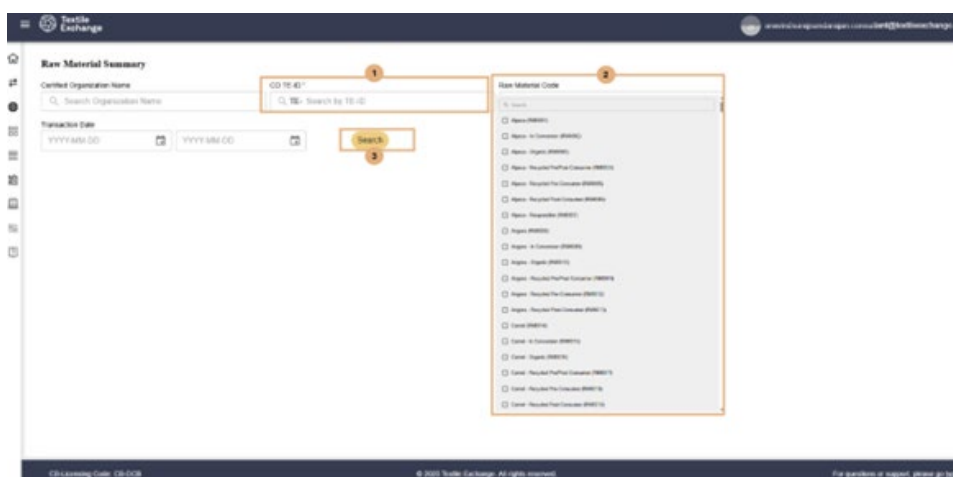

Figure 4: Inventory by raw material summary search.
On the raw material summary page, users can search for inventory balances using any combination of filters such as the certified organization's name or TE-ID [1], transaction date, and raw material code [2]. Refer to Figure 4 and follow the steps below to utilize the search function:
1. Retrieve inventory balances of all raw materials of a certified organization using any combination of filters, such as certified organization name or TE-ID [1]. Refer to Figure 4.